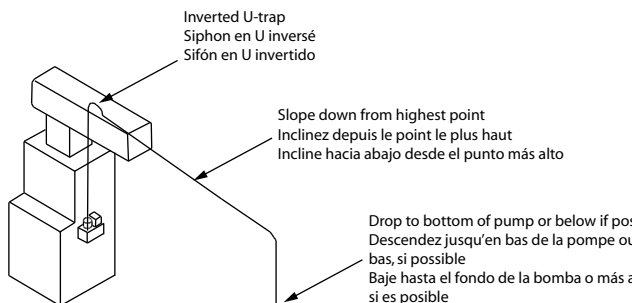

Fig. 6 (EN/FR/ES)
2. The discharge line (Fig. 6) should be flexible tubing secured with a hose clamp (not provided) or pipe (3/8 inch I.D. maximum to prevent excessive flow back to unit). From the pump, extend the discharge line straight up as high as necessary (but not above the head/GPH of the pump). From this high point, slope the discharge line down slightly to a point above the drain, then turn down and extend to a point below or approximately level with the bottom of the pump. This will give a siphoning effect, which will improve the efficiency of the pump and will, in most cases, eliminate the need for a check valve. If it is not possible to slope the discharge line down, make an inverted U-trap directly above the pump at the highest point.